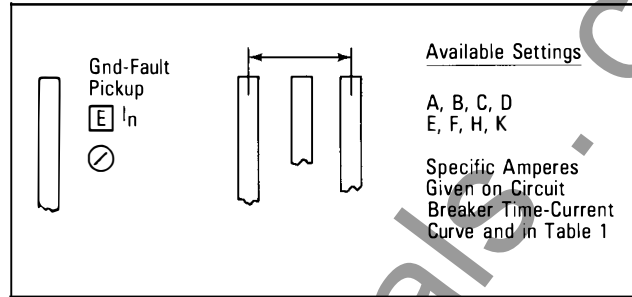

Fig. 6.6 Ground Fault Current Pickup Settings
As illustrated in Fig. 6.6, eight (8) available settings are given in alphabetical notations from A to K (there is no "G" notation). Specific setting values are a function of the installed rating plug. In general, the pick-up settings range from 0.25 to 1.0